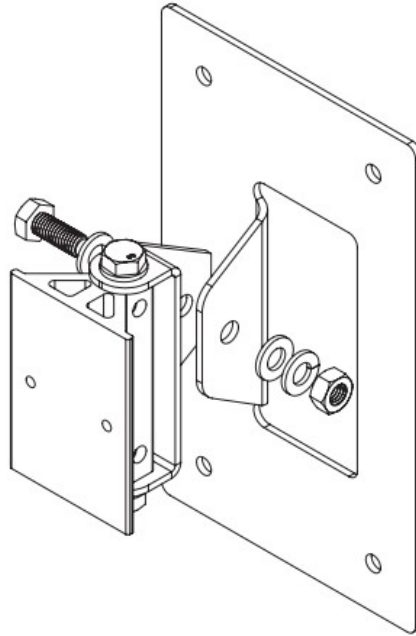

Fig. 5 (Sliding Mount Block shown not attached to speaker for clarity)
A. Insert the 20mm M8 bolt through the short speaker bracket and the lower wall bracket as shown in Fig. 5. Be sure to include the plain washers and one lock washer as shown.